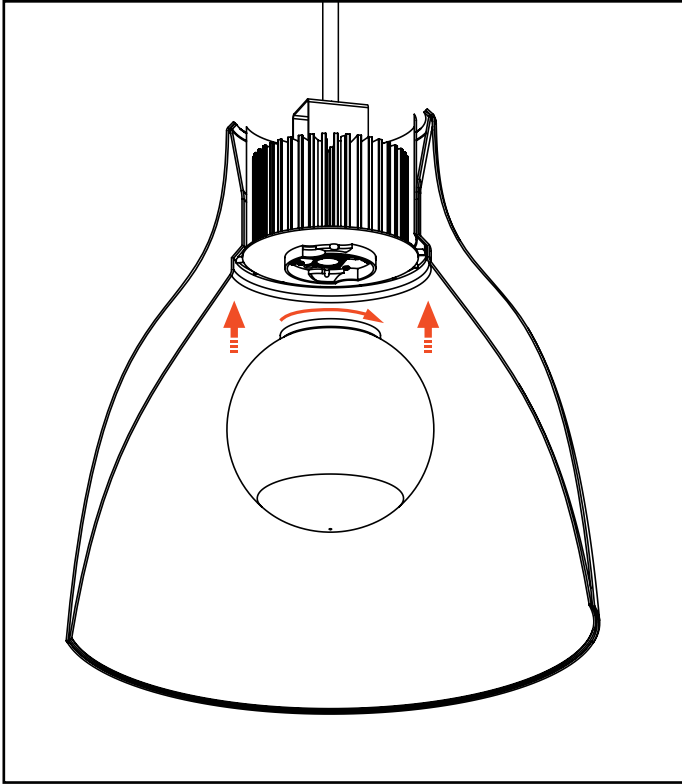

Figure 16
19. Install the optics Globe / Lens from below by turning clockwise and lock into the light engine. May need to hold the top of the light engine assembly or shroud while installing. (Figure 16)